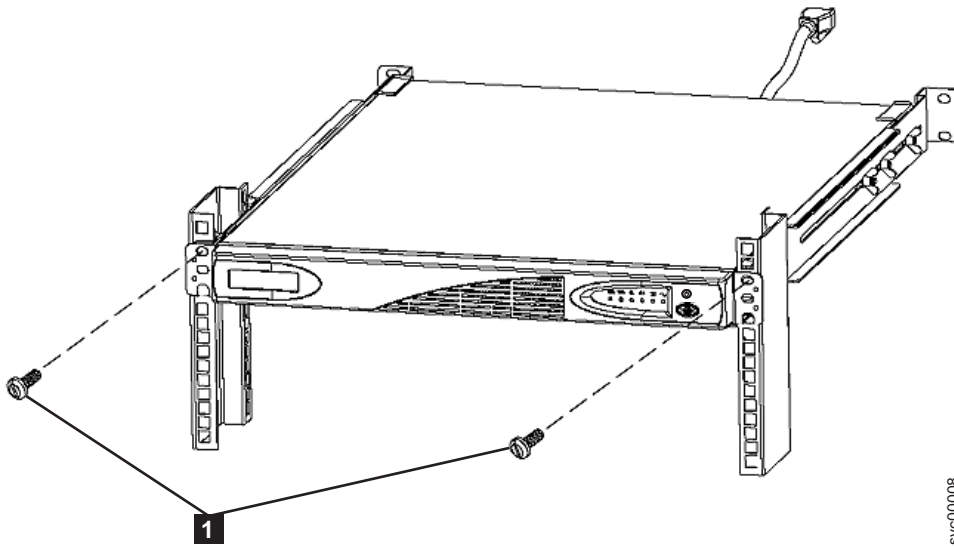

Figure 312. Mounting screws for the 2145 UPS-1U
9. At the front of the 2145 UPS-1U, unscrew the two mounting screws **1**, as shown in Figure 312 on page 326.